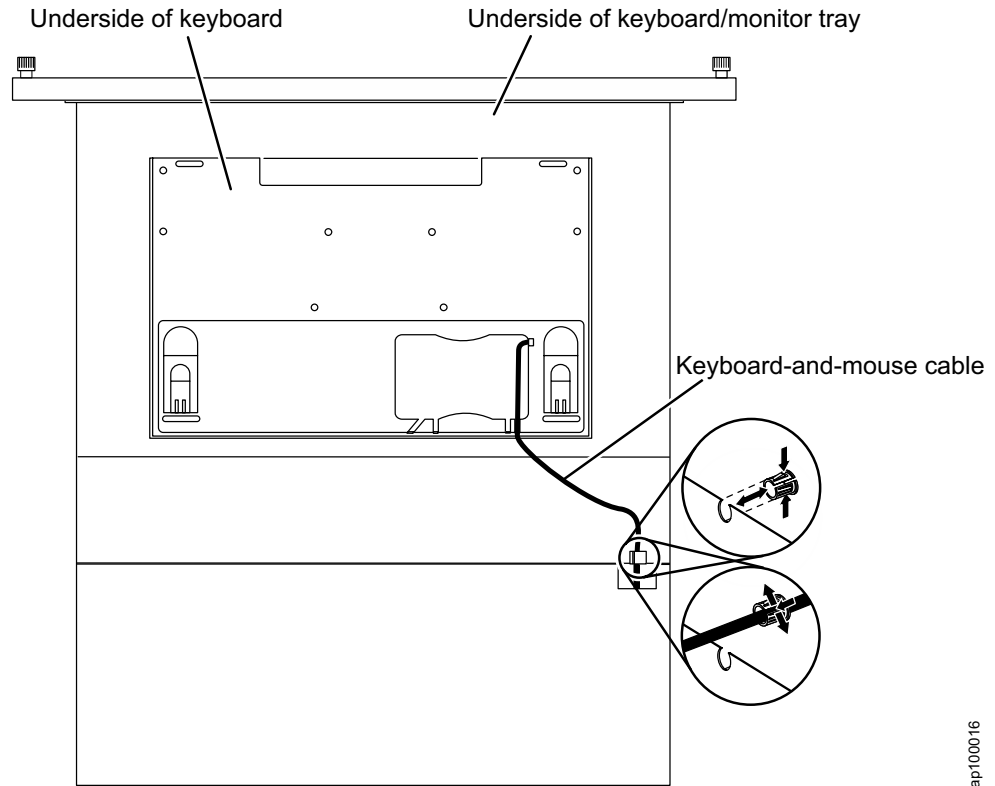

Figure 14. Underside of fully extended keyboard/monitor assembly with focus on bushing and cable routing
- a. On the underside of the keyboard/monitor assembly, gently squeeze the bushing and push it toward the rear of the keyboard/monitor assembly to remove it. (Figure 14 on page 33)
- a. Route the cable through the slot on the left side of the cable-routing area on the underside of the keyboard. Do not route the cable through any of the other three slots. (Figure 14 on page 33)